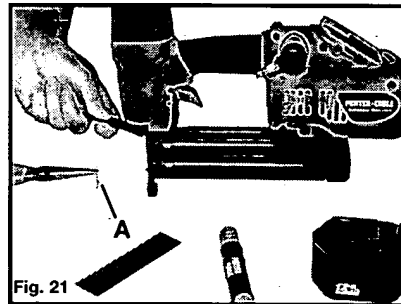

Fig. 21
4. Remove the jammed fastener (A) Fig. 21.